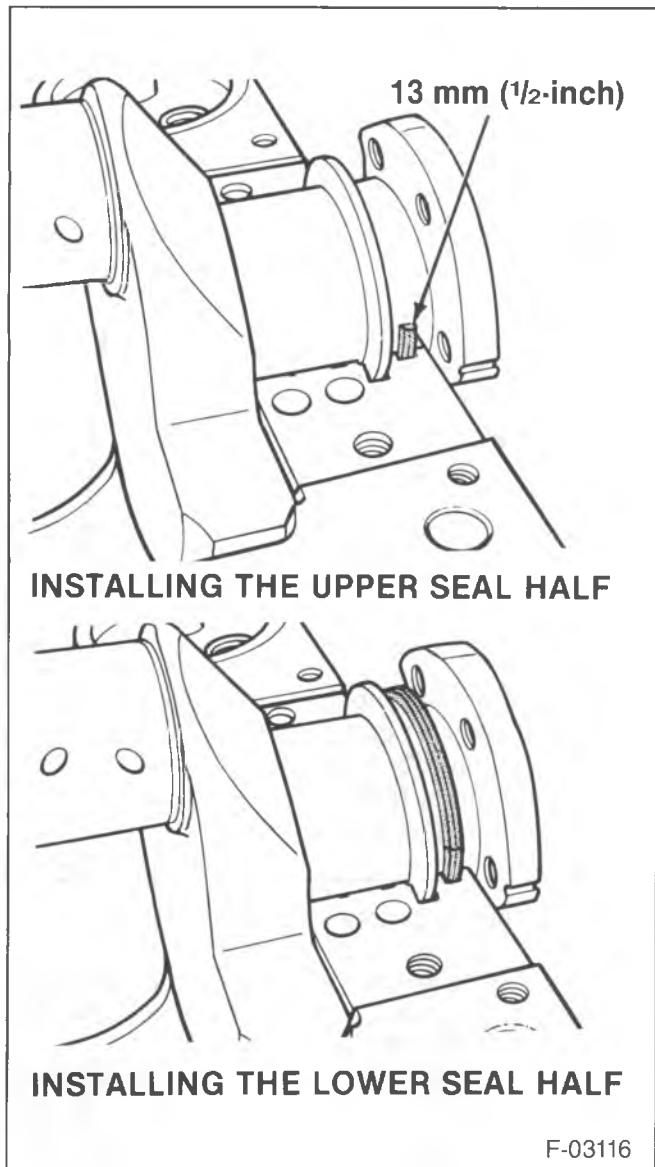

Figure 31—Installing the Two-Piece Rear Oil Seal
- “Roll” one seal half into the block seal groove until 13 mm (1/2-inch) of the seal’s one end is extending out of the block (figure 31).
- Insert the other seal half into the opposite side of the seal groove in the block (figure 31).